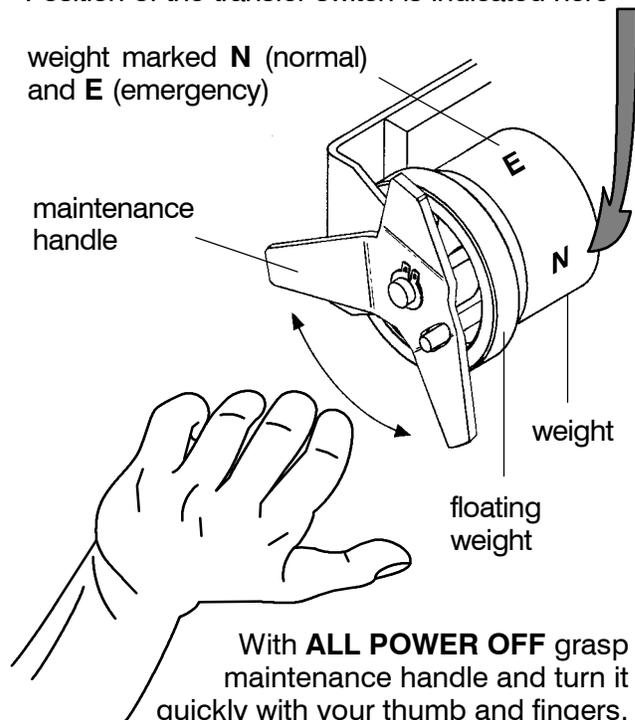

Figure 1-3. Maintenance handle and positions.
- After deenergizing both power sources, open the enclosure door. Locate and the maintenance handle on the left side of the transfer switch. See Figure 1-3.